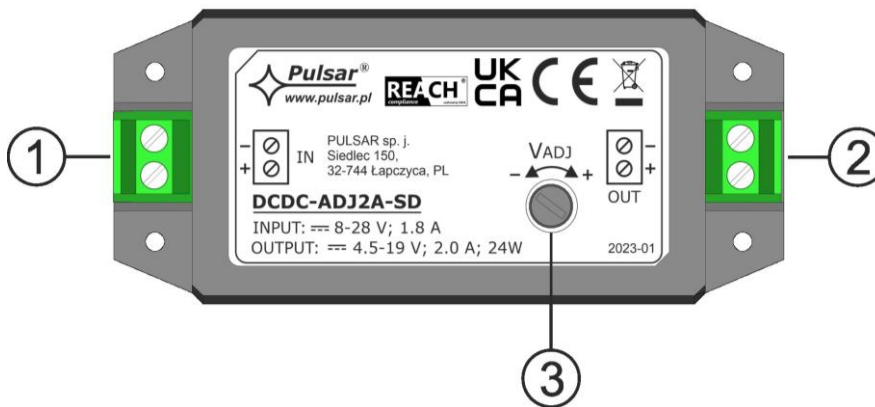
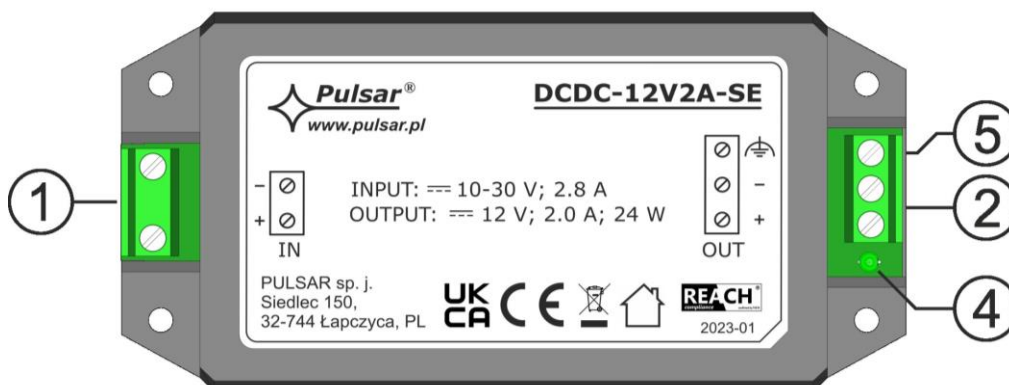
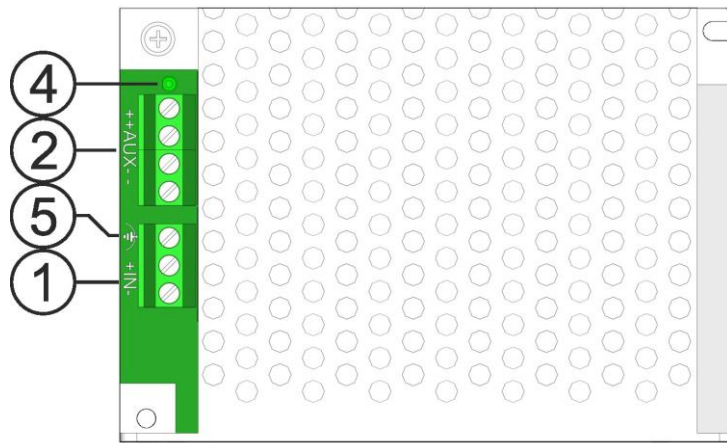

Fig. 2a. View of the DCDC-ADJ2A-SD converter module.
Fig. 2b. View of the DCDC-12V2A-SD; DCDC-12V2A-SE; DCDC-24V1A-SE converter module.
Fig. 2c. View of the DCDC-12V5A-SE; DCDC-12V4A-SE; DCDC-24V2A-SE converter module.
1.2. Description of PSU components and connectors (Fig. 2a, Fig. 2b, Fig. 2c)